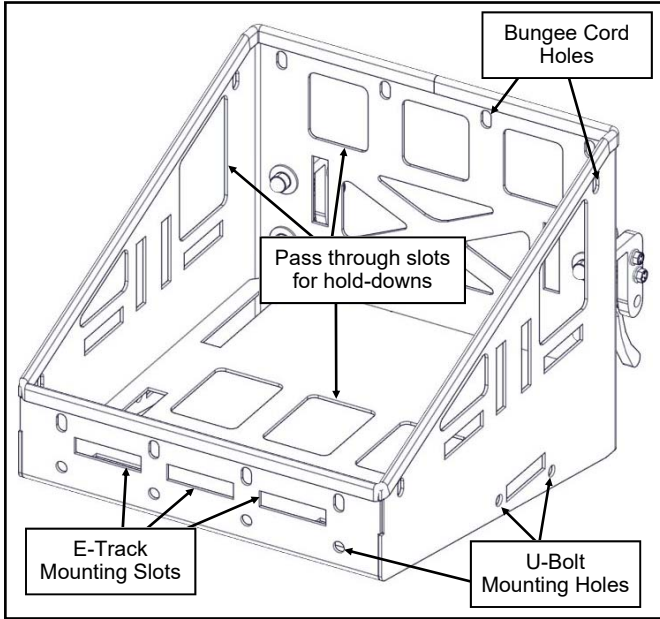

Fig. 1a (mounting point option 1)
1. The design features include many E-Track slots, bungee cord holes, splitting/felling wedge slots, several pass through slots for hold-down straps and various mounting hole locations for a U-bolt. See figs. 1a, b, & c.